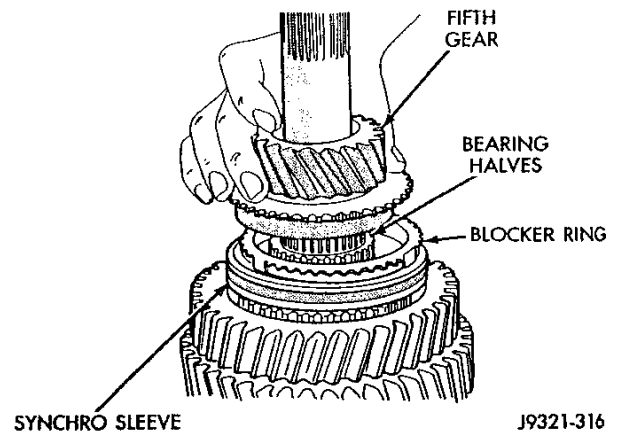

Fig. 50 Fifth Gear, Bearings And Blocker Ring Installation
(21) Install fifth gear bearing halves on output shaft (Fig. 50). Use petroleum jelly to hold bearing halves in place.
(22) Install blocker ring in fifth-reverse synchro sleeve (Fig. 50).
(23) Install fifth gear (Fig. 50).